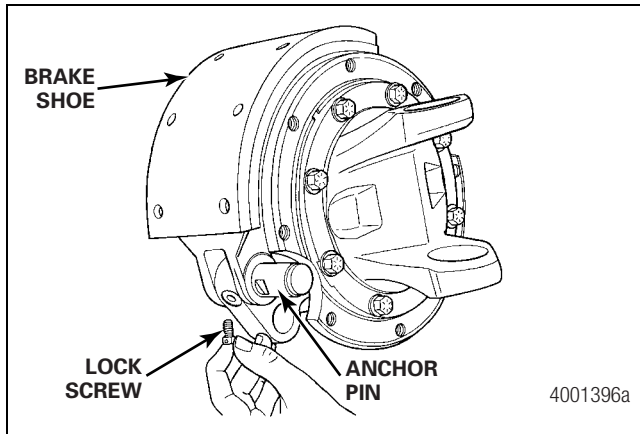

Figure 5.25
4. Install the anchor pins into the brake shoes. Verify that the flat side of the pin is installed toward the lock screw in the shoe. Figure 5.25.
5. Use a hammer and a brass drift to install the anchor pins into the shoes. Figure 5.25.